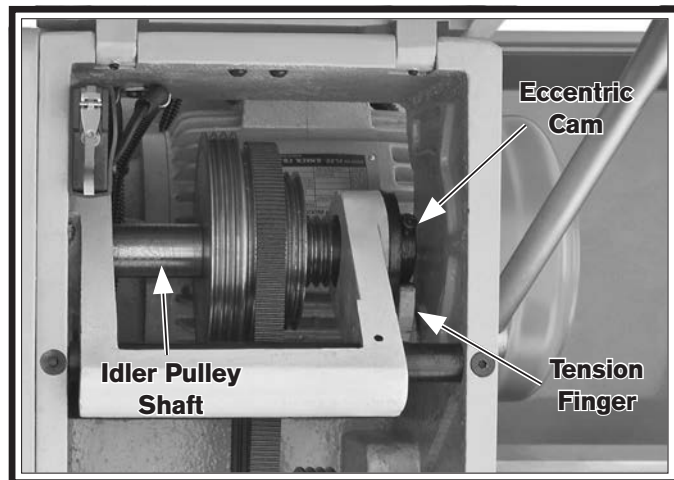

Figure 89. V-belt tension eccentric cam.
V-belt tension is controlled by the position of the eccentric cam on the inboard end of the idler pulley shaft (see **Figure 89**).
3. Loosen the cap screw on the eccentric cam shown in **Figure 89**.